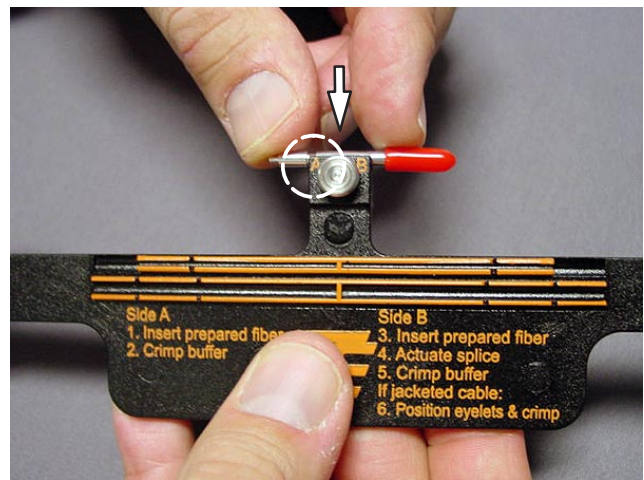

Figure 32
4. Place splice into termination tool as shown in Figure 32, notch goes into side A.